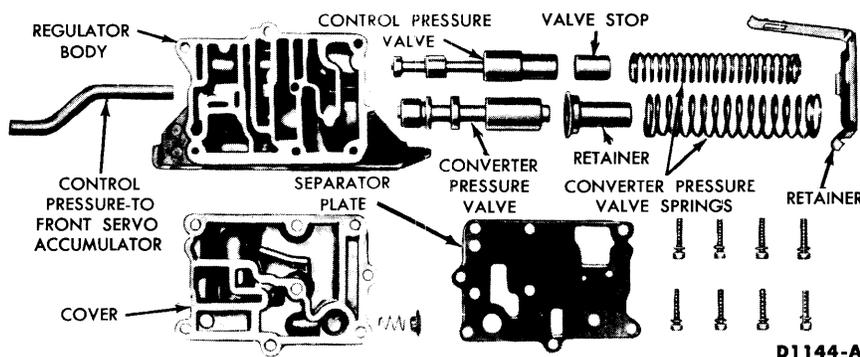

FIG. 20—Pressure Regulator
7. Inspect the control pressure and converter pressure valves (Fig. 20) and bores for burrs and scores. Remove all burrs carefully with crocus cloth.
13. Insert the valves in the pressure regulator body (Fig. 20).